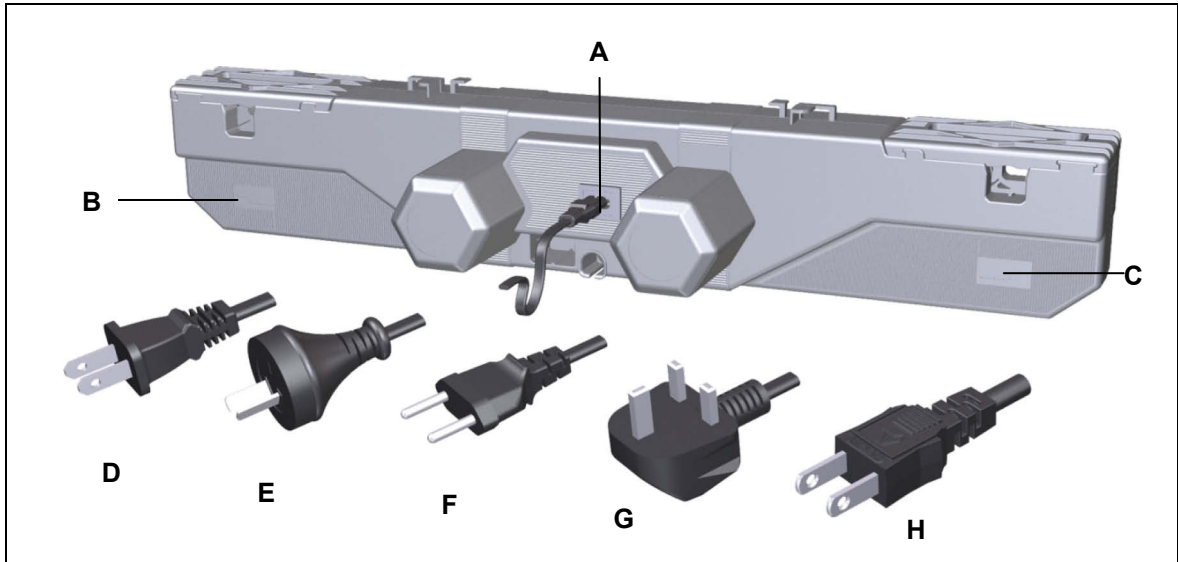

Figure 2 Variants of the OKIMAT IPS pluggable mains power cord
- 3 Align the OKIMAT in the proper position next to your end product. The slots for the back and leg sides must be properly aligned with the correct brackets on your end product (refer to the symbols on the OKIMAT as described in Figure 2).